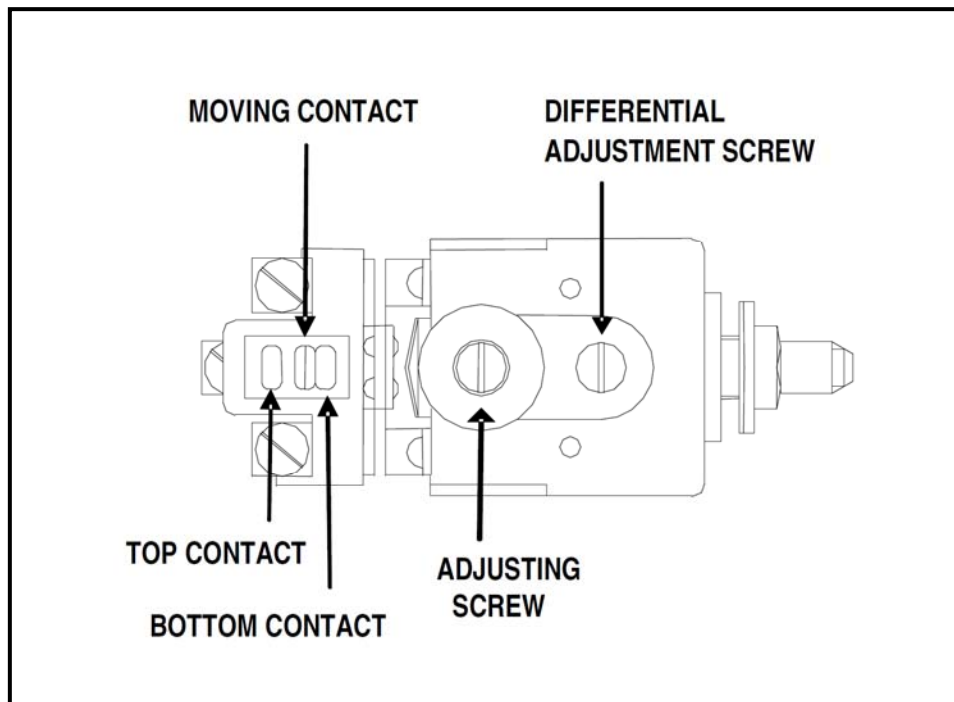

Figure 6: Pressure Switch
For the Dual-Bed nitrogen generator to switch to stand-by mode, the pressure switch (PSH 101) has to remain in closed (changed state) position for 10 minutes. This means that the pressure switch has to be set just below the lowest pressure point in the nitrogen surge tank during no flow. Refer to the electrical diagram (Figure 5) and Figure 6. If the pressure switch is not set below the lowest pressure reading in the nitrogen tank **during no-flow condition** PSH 101 will open during the nitrogen tank pressure swing before 10 minutes has elapsed and the PLC will not set the unit to stand-by. The pressure switch is located inside the electrical junction box. A flat head screw driver is required to turn the adjustment screw. Take great care in using tools around live terminals.
4. Turn the adjusting screw counter-clockwise until the moving contact in the pressure switch just touches the bottom contact (closed position). Note that X1 in the PLC is illuminated. X1 lamp is illuminated when the pressure switch is in the closed position. If the switch is already closed, turn the adjusting screw clockwise until the contacts no longer touch. Then turn the adjusting screw counter clockwise until the switch closes. Refer to Figure 6.